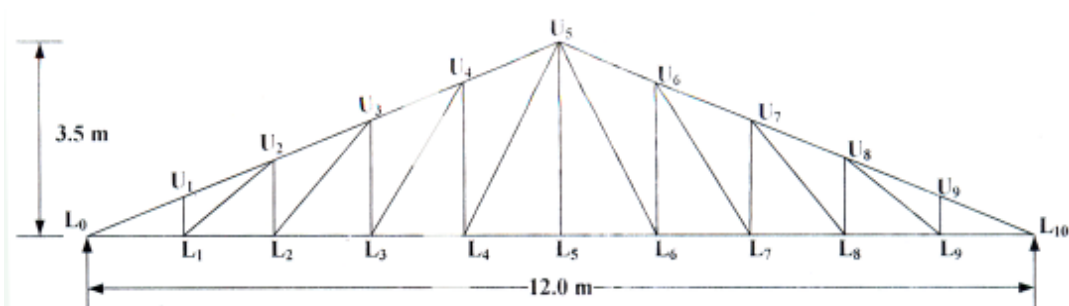

Fig. 6 (a)
6. a) The roof truss shown in Fig. 6 (a) has the following data :